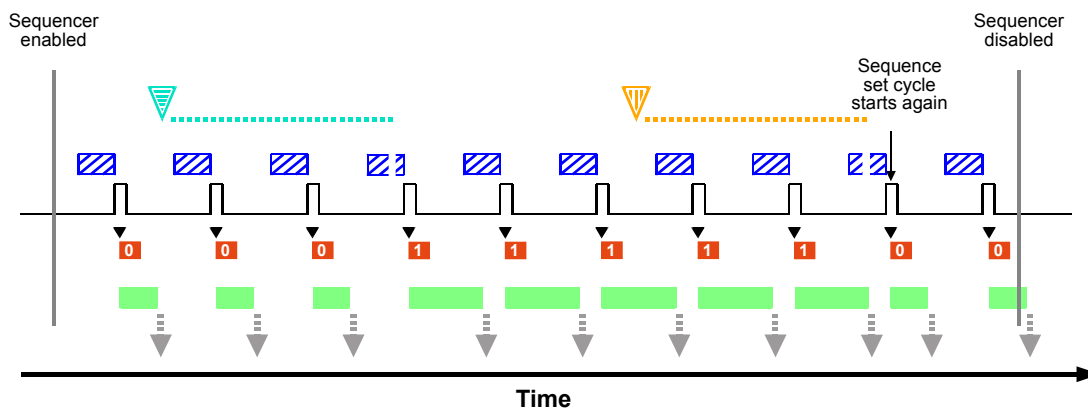

Fig. 118: Sequencer in Controlled Sequence Advance Mode with the SequenceControlSource Set to Disabled and Asynchronous Advance and Restart
The following use case (see also Figure 118) illustrates the operation of the sequencer in controlled sequence advance mode with the SequenceControlSource set to Disabled. Sequence set advance proceeds in ascending sequence set index numbers subject to asynchronous advance commands. After one sequence set cycle is complete, another one starts. Sequence set cycle restarts are subject to asynchronous restart commands.
- When the AsyncAdvance command becomes effective, the camera happens to be in "waiting for frame start trigger" status. The parameter values of the next sequence set, i.e. of sequence set 1, are loaded into the active set. Note that the camera briefly exits the "waiting for frame start trigger" status while the parameter values of sequence set 1 are loaded into the active set (see also Figure 118).
- When the AsyncRestart command becomes effective, the camera happens to be in "waiting for frame start trigger" status. The parameter values of sequence set 0 are loaded into the active set. Note that the camera briefly exits the "waiting for frame start trigger" status while the parameter values of sequence set 1 are loaded into the active set (see also Figure 118).